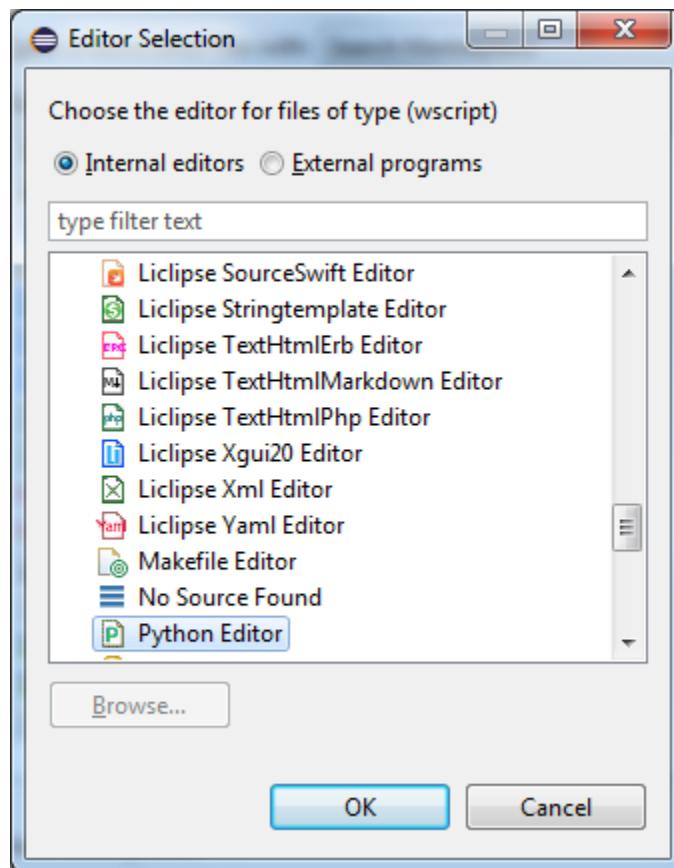

Fig. 11.18a.
5. Select the Python Editor ~~as~~ and click  , as shown in Fig. 11.18a.